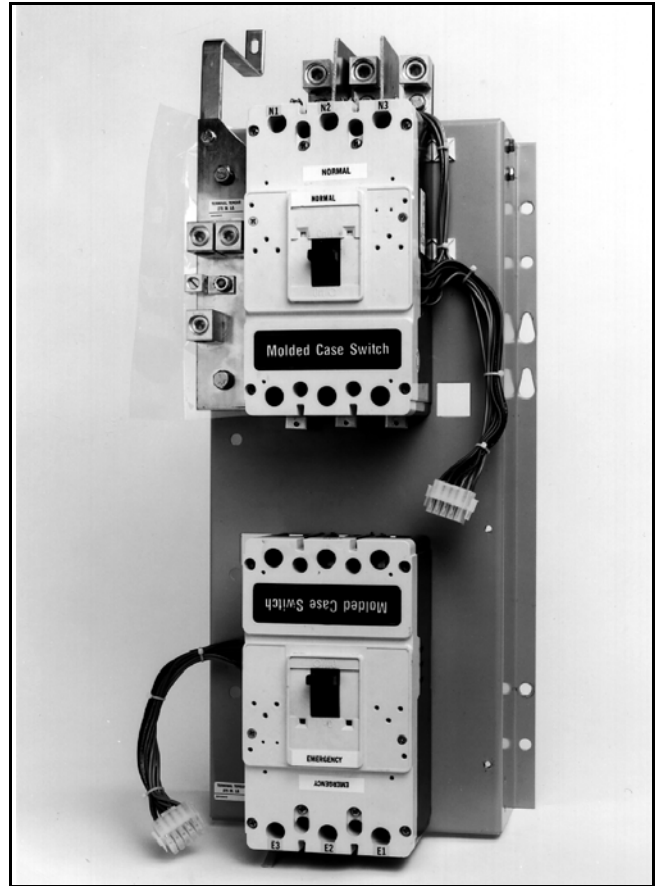

Figure 22. Power Panel Removed from the Enclosure (with the Transfer Mechanism Removed for Clarity - 225-1200 A Models).
**Step 3:** Remove the four bolts that secure the power panel in the enclosure. Depending upon the size of the panel, it may be advisable to have assistance with the removal. Once the power panel is free, carefully move it to a solid work surface (Figure 22).